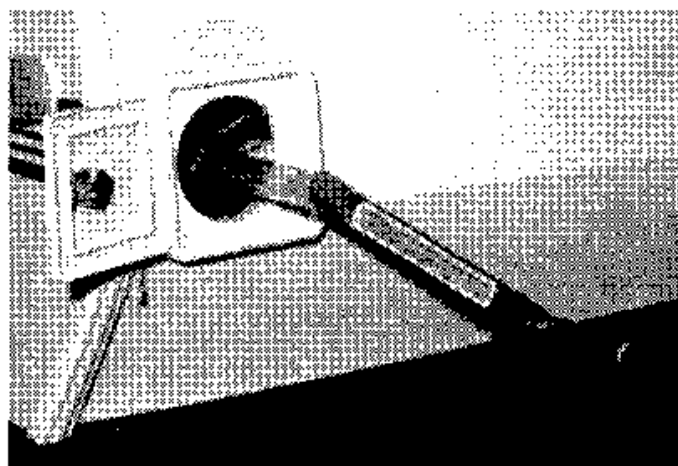

Fig. 2
3. Insert the crank into the square tube and turn clockwise to raise. Fig. 2